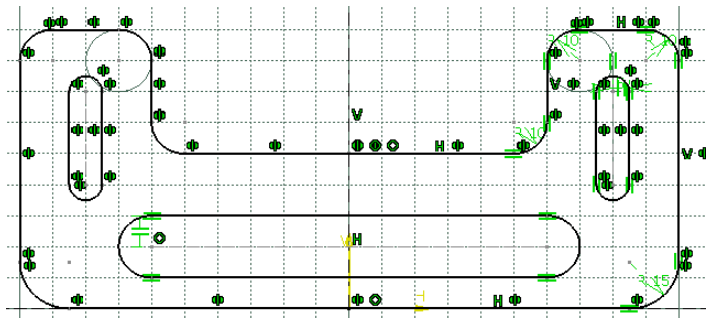

Figure 3-62 The sketch after creating the horizontal elongated hole
- Draw the elongated hole in the lower portion of the sketch, refer to Figure 3-62.
4. Draw the horizontal elongated hole, such that the coordinate values of the start and end points are 60,20 and -60,20, respectively. Specify the value of radius as **10** in the **Radius** edit box of the **Sketch tools** toolbar. The final sketch is shown in Figure 3-62. Press the ESC key to exit the selection set.